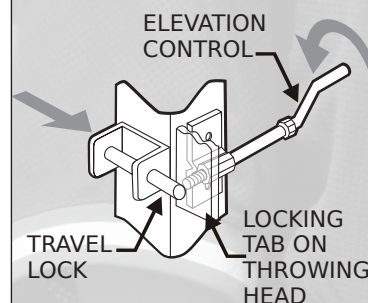

Figure 7 Secure the Travel Lock
2. See Figure 7 at right:
Check bolts for tightness once a season. Tighten bolts securely, but do not over-tighten. See Figures 7 and 8 on page 11.